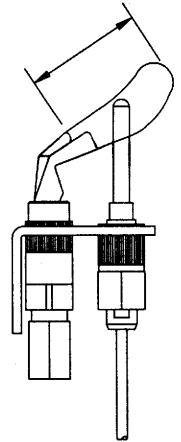

Figure 5
7. Allow the heater to operate for at least 5 minutes, then observe main burner flames. A hard blue flame with no lifting and no yellow tipping is normal. See Figure 5. If air shutter adjustment is necessary, close air shutter gradually until yellow tipping appears, then open just enough to eliminate the yellow tipping. **Wear gloves when handling the air shutters.**